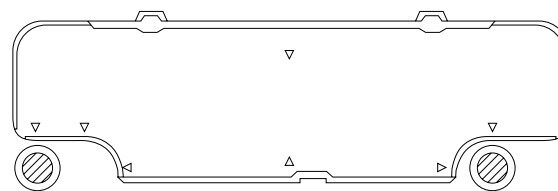

Fig. 7a
- (1) Place the rear panel from the indoor unit on the wall at the location selected. Make sure the panel is horizontal, using a carpenter's level or tape measure to measure down from the ceiling. Wait until after cutting the hole before attaching the rear panel to the wall.
- (2) Determine which side of the unit you should make the hole for tubing and wiring. (Figs. 7a & b)
In the case of left-rear tubing, use the outside ▽ mark for precise placement of the hose outlet. (Figs. 7a & b)